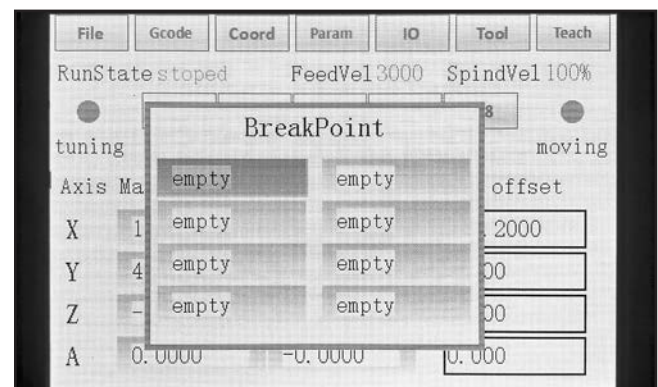

Figure 58. Example of breakpoint dialog box.
3. Press "Reserve" button to open breakpoint dialog box (see **Figure 58**).